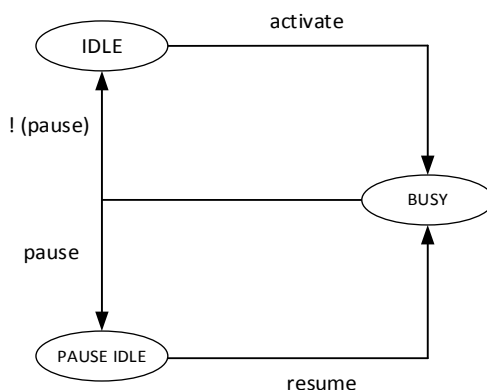

Figure 2.5-3. Operation flow with and without PAUSE mode
- Unlimited length transmission can be achieved by enabling pause mode. In pause mode, the CS signal will stay active after one transfer. During this period, the SPI master controller will be in **PAUSE_IDLE** state and wait for the resume command to start the next transfer. Figure 2.5-3 is the state transition diagram.